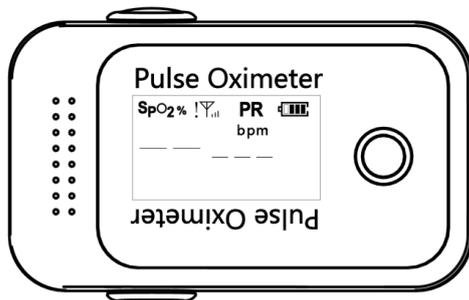

Figure 10
3. When there is no finger inserted, the invalid value “-- --” will be displayed on the screen, as shown in **Figure 10**.